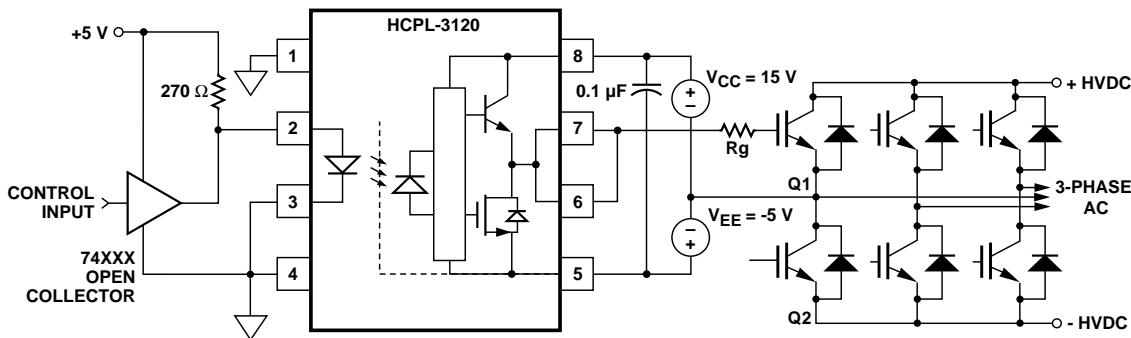

Figure 26. HCPL-3120 Typical Application Circuit with Negative IGBT Gate Drive.
Step 1: Calculate Rg Minimum from the IOL Peak Specification. The IGBT and Rg in Figure 26 can be analyzed as a simple RC circuit with a voltage supplied by the HCPL-3120.
For the circuit in Figure 26 with I_F (worst case) = 16 mA, Rg = 8 Ω, Max Duty Cycle = 80%, Qg = 500 nC, f = 20 kHz and T_A max = 85C: